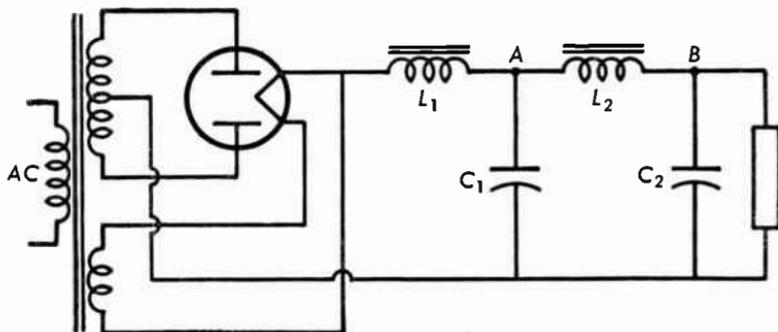

Fig. 9.06a Full-wave rectifier with two-section filter.
9.06 The rectifier circuit of Figure 9.06a is connected to a 60-cycle a-c line. The secondary voltage is 550 volts peak per plate. $L_1 = 25$ henries, 1000 ohms; $L_2 = 15$ henries, 300 ohms; $C_1 = C_2 = 8$ microfarads. The equivalent load resistance across the output capacitor is 6000 ohms. Calculate the approximate per cent ripple across the input and the output capacitor. Do not use formulas.